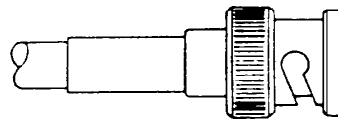

Figure 8—Completed BNC Connector
4) **Figure 8:** Install cable assembly into body assembly so inner ferrule slides over dielectric and under braid. Push cable assembly forward until contact seats in insulator. Slide outer ferrule over braid and up against connector body. Crimp outer ferrule using Cavity A of tools specified above.